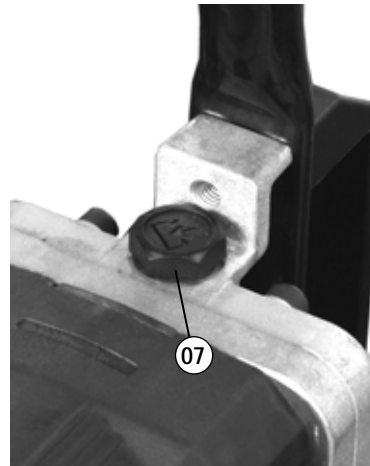

FIG. 26a
(Ref. to Fig. 26a and 26b)
**11.1.1) Topping up oil** (Ref. to Figs. 26a and 26b)